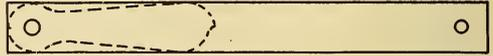

FIG. 2.
Bore a small hole in the armature, or if the armature has a copper contact, drive it out and insert a small rivet in the hole, having the head toward the magnet (B). Next secure a piece of brass. That out of a clock is just right, as it will have a hole already in it and thus save time of boring. From this strip cut a section as shown by dotted lines in Fig. 2.